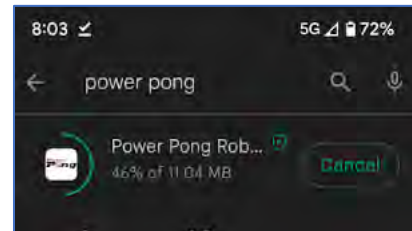

Figure 2-2
2. In the Play Store application, search for the application by typing “Power Pong” in the Search apps box. (Figure 2-2)